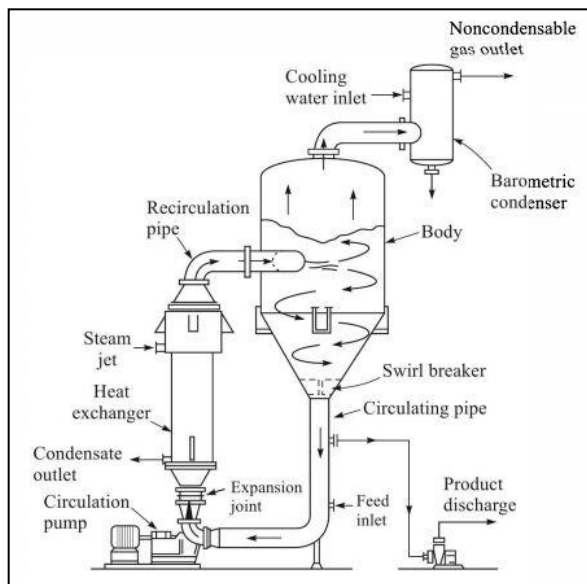

Figure 8. Construction of a vacuum crystallizer
**Construction:** The construction of a vacuum crystallizer is shown in figure 8. Vacuum crystallizer is a cylindrical body with a conical bottom. A condenser is attached to the crystallizer with a vacuum pump between the bottom of the crystallizer is attached to a discharge pipe internally the body of the crystallizer can be lined with acid resistant material such as lead or rubber. Two propellers are placed above discharge pipe to prevent short circuit of the feed (to the discharge pipe).